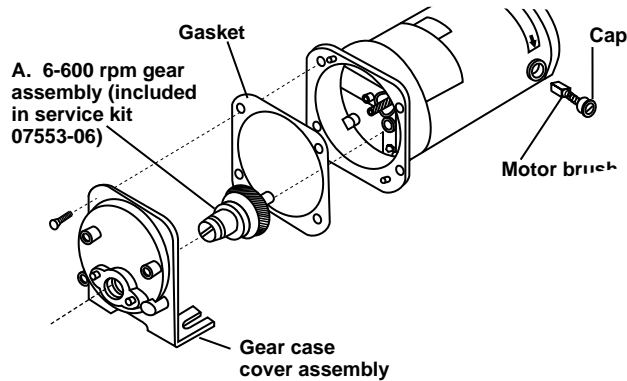

Fig. 2 Gear/Brush Replacement
A plastic intermediate gear protects the drive system from torque overloads. To replace gear (see Figure 2):
4. Remove the 2 rubber caps (see Figure 2), then carefully unscrew each brush holder on opposite sides of the motor. Withdraw the brush, and examine it for wear.